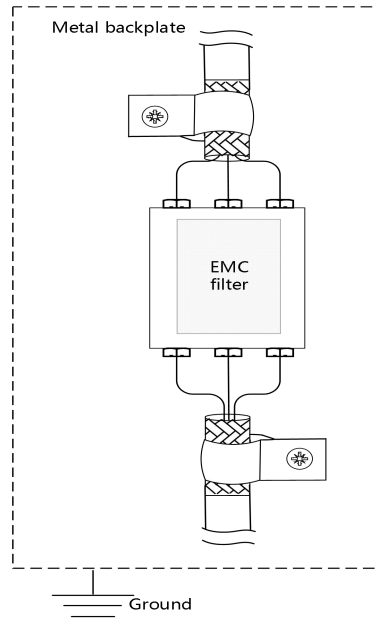

Figure 3-6 EMC noise filter installation diagram
(1) Reactor
- To suppress the higher harmonic currents at the input power side, connect a reactor to the power input end of the driver. Figure 3-6 shows how to install a reactor.
(2) EMC noise filter